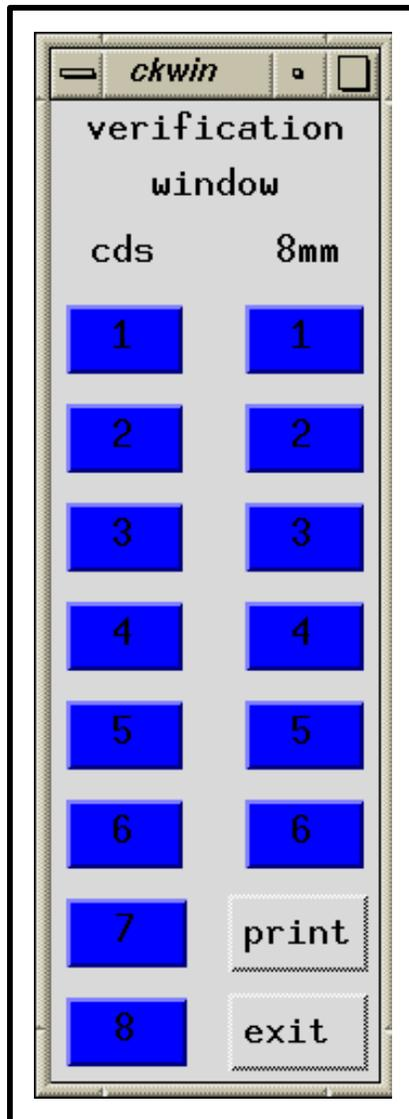

Figure 30. PDS Verification Tool
- The PDS **Verification Tool** (Figure 30) is displayed.
Shutting down the PDS Verification Tool starts with the assumption that the applicable servers (e.g., the Oracle DBMS server) are running and the PDS **Verification Tool** (Figure 30) is being displayed.
- 1 Click on the **Exit** button at the bottom of the PDS **Verification Tool** (Figure 30).
- The PDS **Verification Tool** (Figure 30) is dismissed.